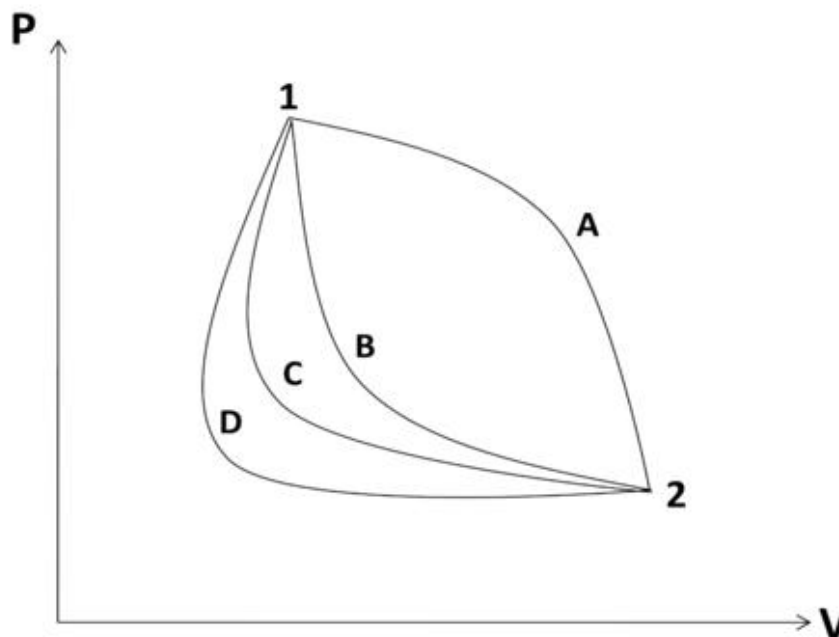

Fig. 2.3 Cyclic process with different paths
- Consider a closed system which changes from state 1 to state 2 by path A and returns back to original state 1 by one of the following path as shown in Fig.2.3: